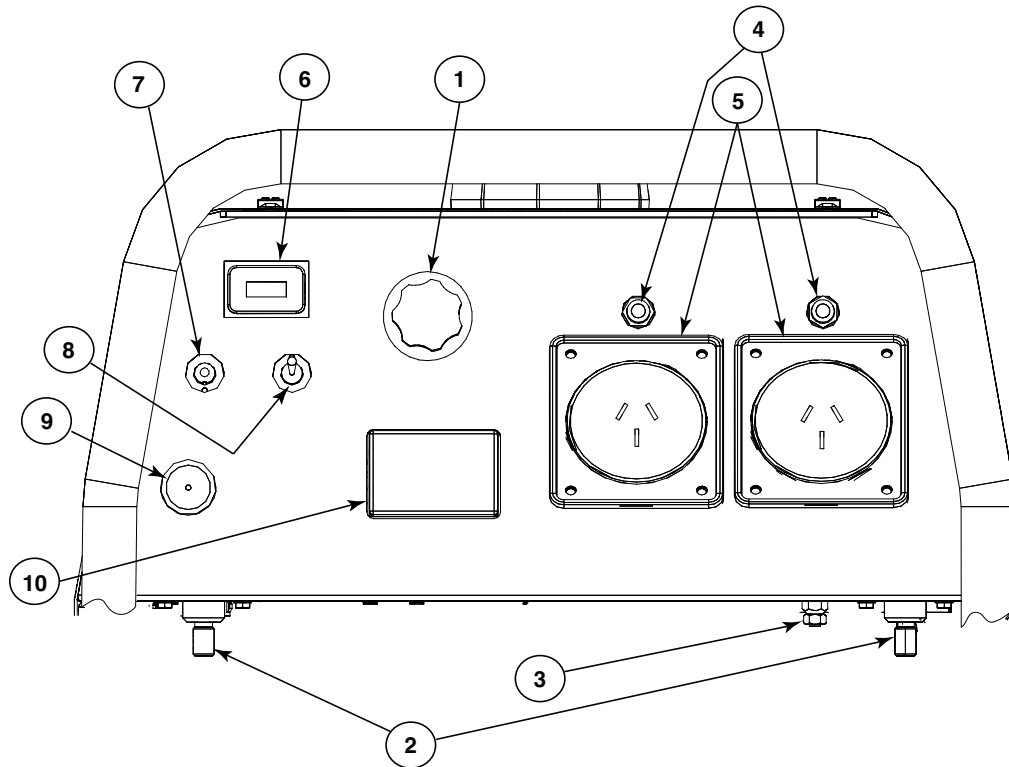

FIGURE A.1
See Figure A.1 for the location of the current control dial, weld output terminals, ground stud, circuit breakers and RCD, 240 volt receptacles.
Install the welding cables to your OUTBACK™ 185 (AU) as follows. See Figure A.1 for the location of parts.
See Figure A.1